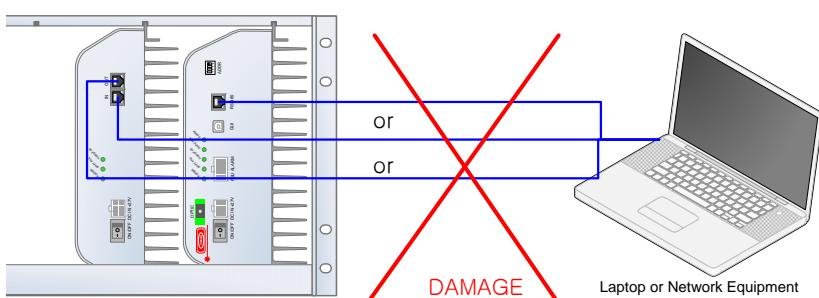

Figure 3-25 Do NOT connect RS-485 ports of Remote Module to network equipment port
- **WARNING! The RS-485 ports should NEVER be connected to the Ethernet port of laptop or Ethernet Network Equipment. Doing so may cause serious damage to the Remote Modules or network equipments. (Figure 3-25)**
- ***WARNING! The RS-485 ports should NEVER be connected to the Ethernet port of laptop or Ethernet Network Equipment. Doing so may cause serious damage to the Remote Modules or network equipments. (Figure 3-25)***